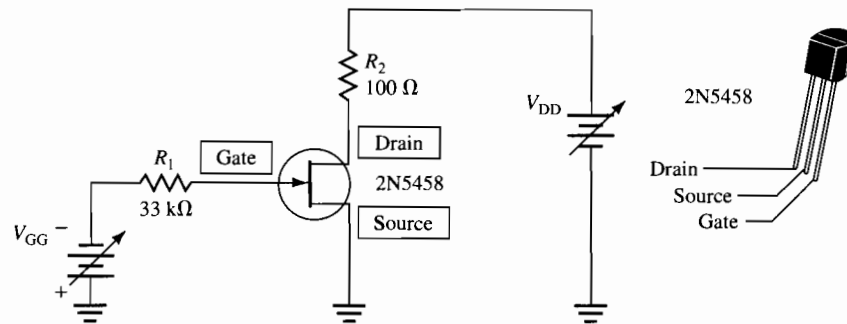

Figure 35–1
2. Construct the circuit shown in Figure 35–1. Start with V_{GG} and V_{DD} at zero volts. Connect a voltmeter between the drain and source of the transistor. Keep V_{CC} at 0 V and slowly increase V_{DD} until V_{DS} is 1.0 V. (V_{DS} is the voltage between the transistor’s drain and source.)
Using the test circuit shown in Figure 35–1, test the effect of varying V_{GS} with V_{DD} held at a constant +10 V. Tabulate a set of data of I_D as a function of V_{GS} . Start with $V_{GS} = 0.0$ V and take data every -5.0 V until there is no appreciable drain current. Then graph the data